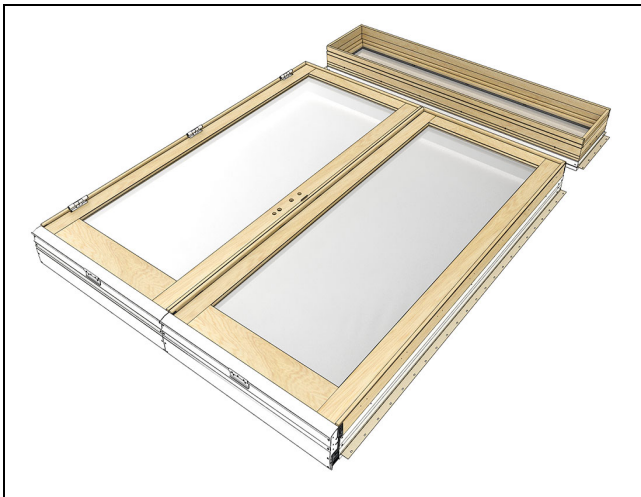

Figure 44
29. Remove and set aside all screens and loose hardware. Lay frames on a flat surface in the desired mulling configuration (interior, wood side facing up). Remove nailing fin from the head jams and sills that will be mulled together. See Figure 44. *NOTE: Picture shows all nailing fins removed. Only remove nailing fins on jambs/sills that will be mulled together, and any head jamb that will need a continuous drip cap after being mulled together.*